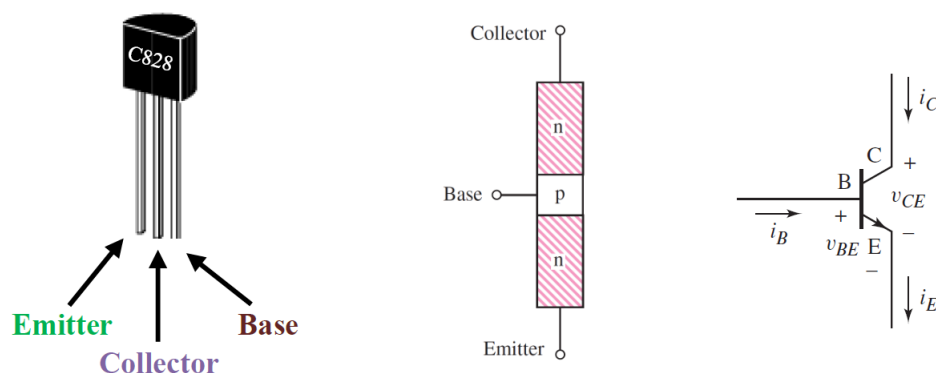

Figure 1: IC, Simple Geometry and Circuit Symbol of an npn BJT
The bipolar junction transistor (BJT) is a type of transistor that is used for electrical amplification and in very-high frequency applications such as radio frequency (RF) circuits for wireless systems and high-speed switching emitter-coupled logic (ECL) gates. BJT is primarily a three terminal device consisting of the following terminals: Base (B), Emitter (E), Collector (C). There are two types of BJTs: (i) npn BJT and (ii) pnp BJT. Our discussion and experiment will be confined to npn BJT. Figure 1 shows the IC, circuit symbol and simple geometry of an npn BJT. The arrowhead in the circuit symbol is always placed on the emitter terminal, and it indicates the direction of the emitter current. For an npn BJT, this direction is out of the emitter. The npn BJT contains a